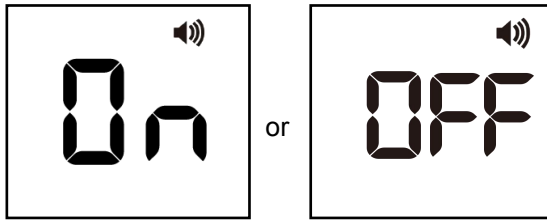

Fig. 17
- Press ◀ or ▶ button to select “On” or “OFF” to set the sound. The sound will be turned on and sound symbol will appear on display if “On” is selected. (Ref Fig. 17)